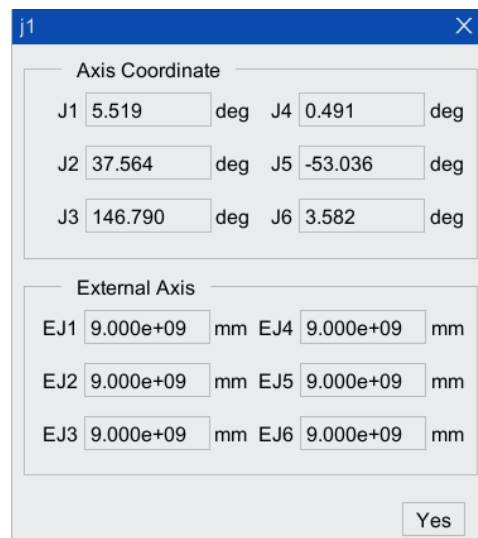

Figure 5-14 "j" variable display box
Step2. Click <...> button after the axis position variable j to pop up "j variable" display box in Figure 5-14, which displays the current position information of the robot body axis(J1-J6) and the external axis (EJ1-EJ6). The position is displayed but cannot be modified. Click <Yes> button, and then the current position information can be obtained automatically after the instruction is inserted; if you want to modify it, you must complete the modification through "Revise Cmd" or "Get pose" in the toolbar of the program editor.